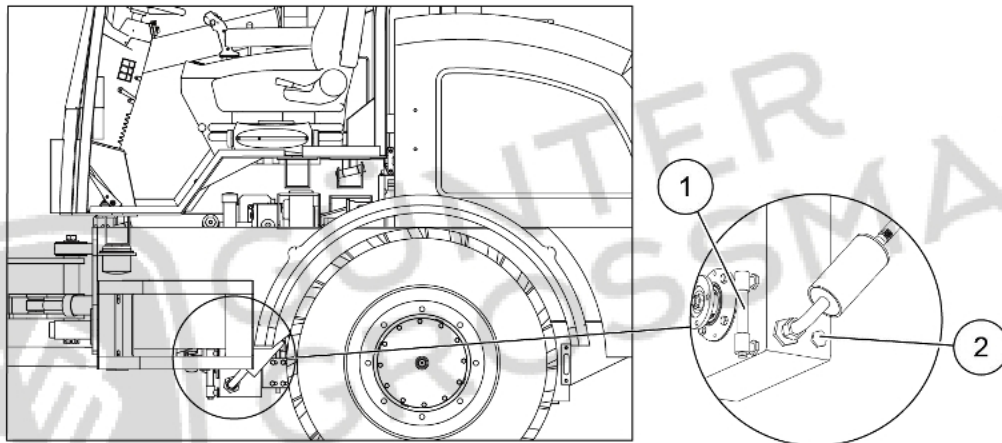

Figure 6-22 Transmission oil level gauge
(5) Hydraulic oil level gauge
Step 10: Remove the hydraulic oil tank cap(4) after shutdown, add hydraulic oil to the upper limit, and then tighten the oil tank cap;
Step 2: Start the engine, run at idle speed for 2 to 3 minutes and then stop. When the oil temperature is 50°C to 60°C, the oil level of the transmission oil level gauge (1) should be in the middle position, as shown in Figure 6-22;